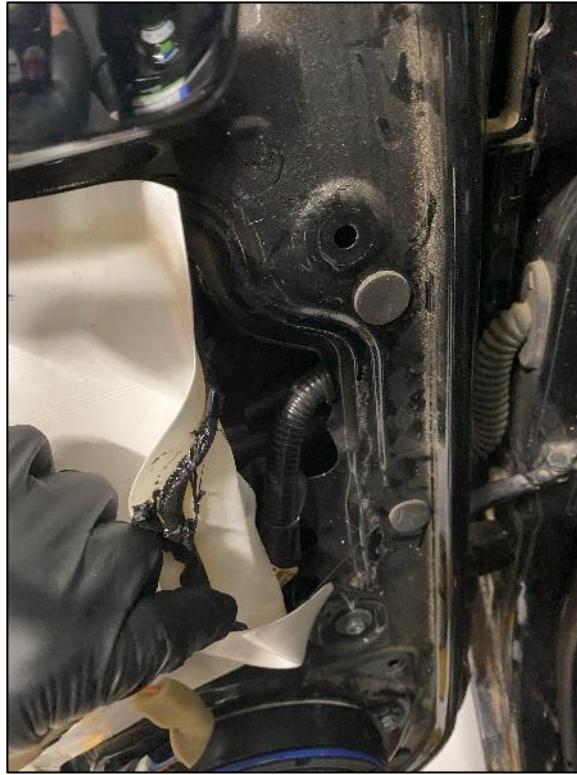

Figure 100
8. Peel up the Sound Deadening on the side of the Door to provide access to remove the Check Link. *Figure 100.*